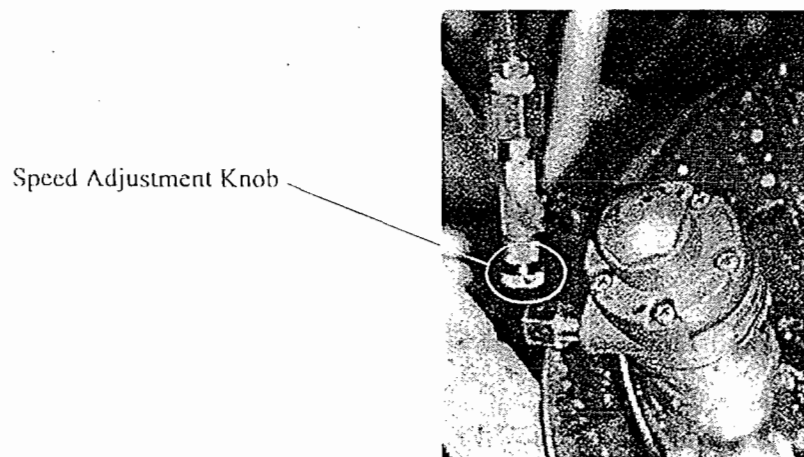

Figure 2.9.5: Mixer Speed Control
2.9.4 If the mixers are to be used, adjust the mixing speed by turning the control valve to increase or decrease operating speed. (Figure 2.9.5)